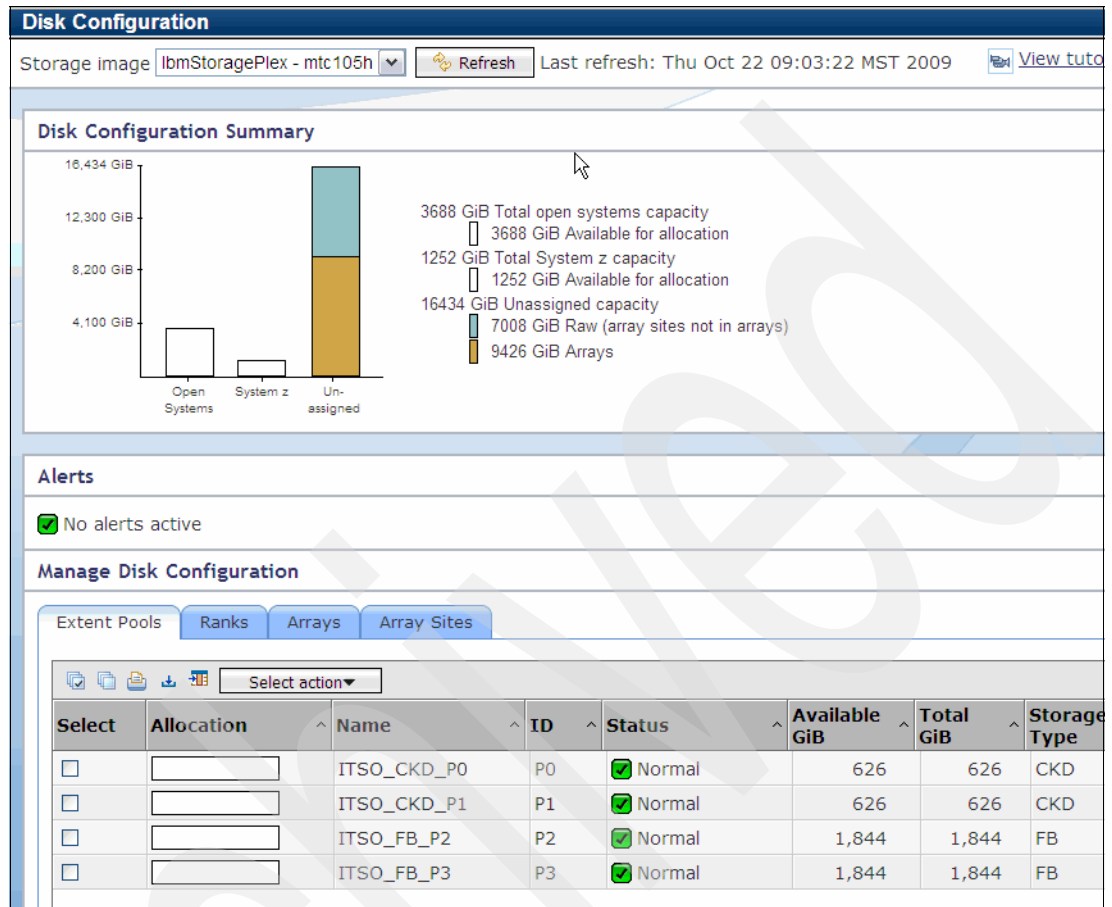

Figure 13-43 List of all created Extent Pools
- Once the task is completed, go back to Disk Configuration and, under the Extent Pools tab, check the list of newly created ranks (see Figure 13-43).